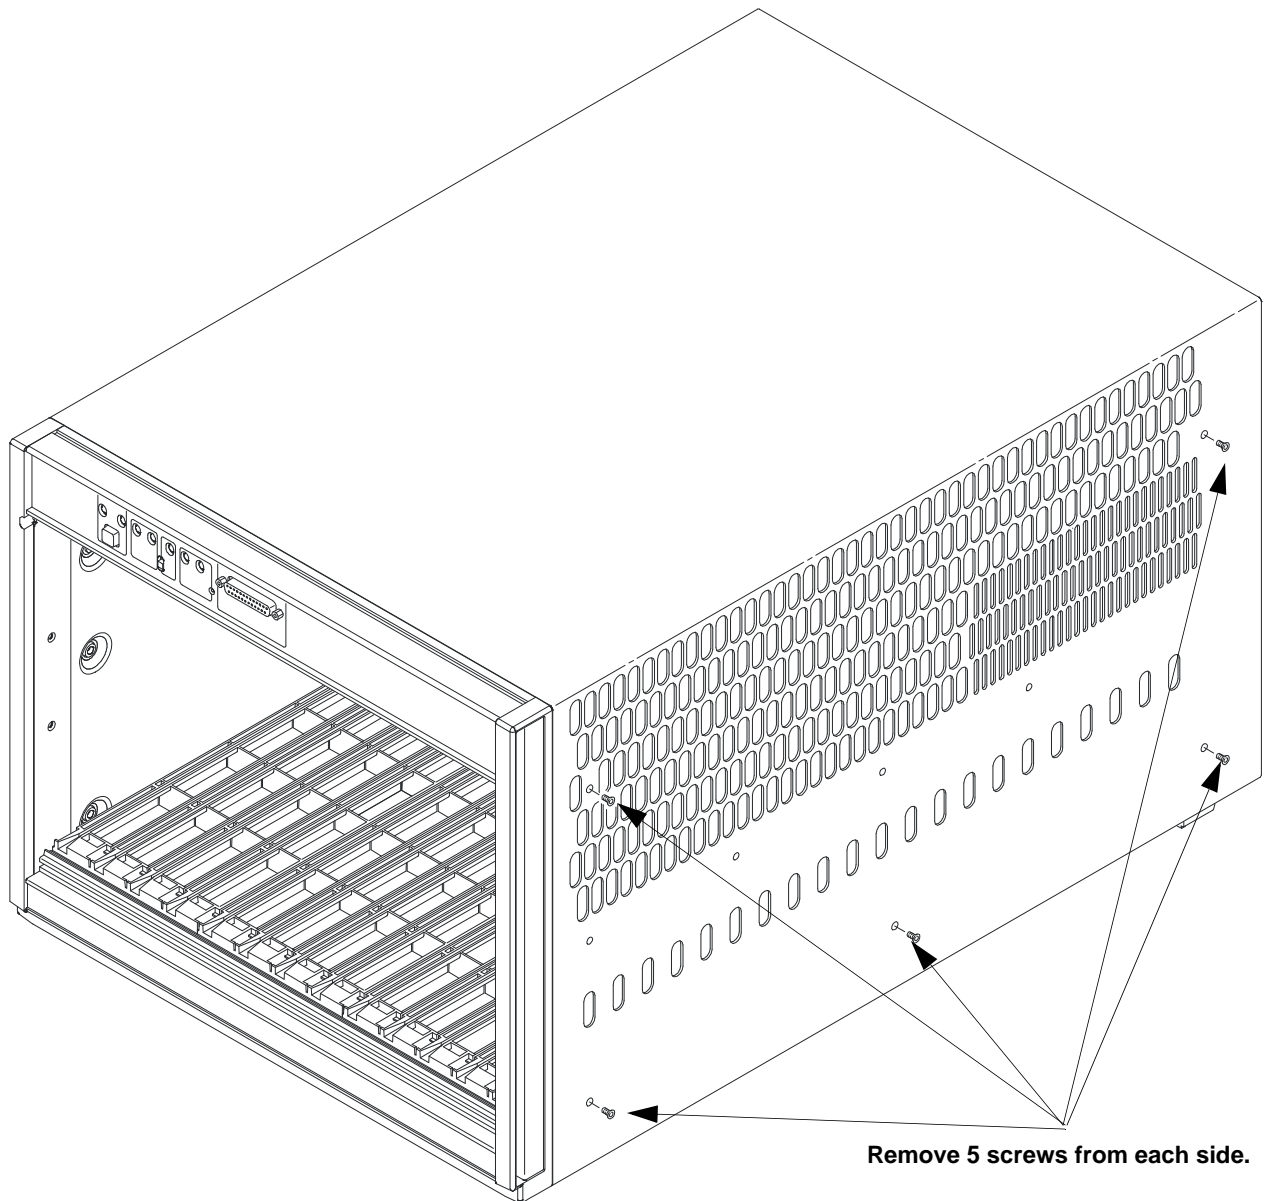

Figure 3-2. Removing the Mainframe Cover
3. Remove the mainframe cover by removing the ten m3x6 flat head torx screws (five on each side of the mainframe). Refer to Figure 3-2.